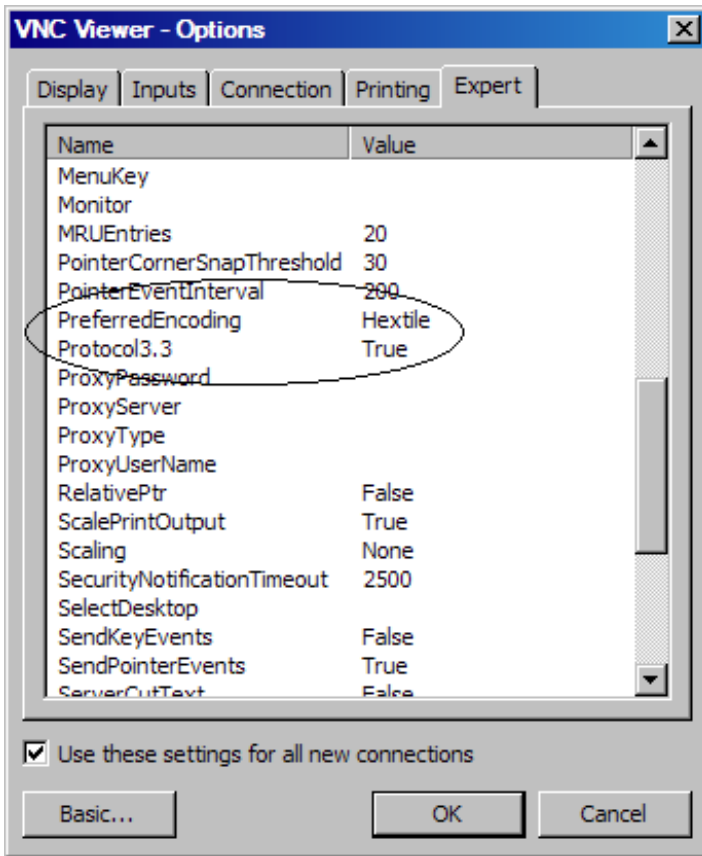

Fig. 133: VNC Viewer - Options - Expert Tab
- Proceed to the Expert’ tab (Fig. 133). Scroll down the list of settings until you find the “PreferredEncoding” and “Protocol3.3” options.